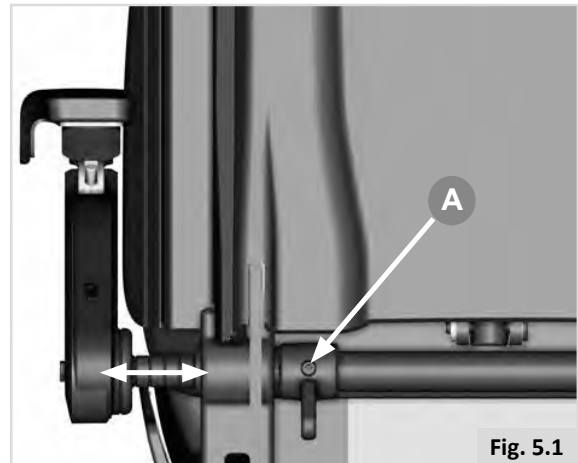

Fig. 5.1
- Remove the two screws (5mm Allen key, included with chair) on the traversing tube as shown in Fig. 5.1 - A.